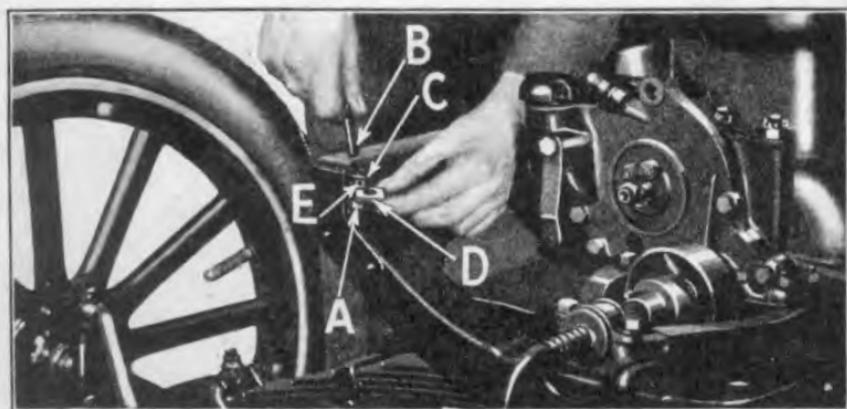

Fig. 89
- 108 **Install front fender iron bolts, radiator springs, studs, and washer nuts** by inserting the two front fender iron bolts—bottom through bolt holes in bottom of frame (See "A" Fig. 89). Insert radiator studs "B" through stud holes in upper part of frame. Place radiator spring "C" over lower end of each stud. Position washer nut "D" under stud and run stud down through washer nut until a cotter pin can be inserted through hole "E" in stud.